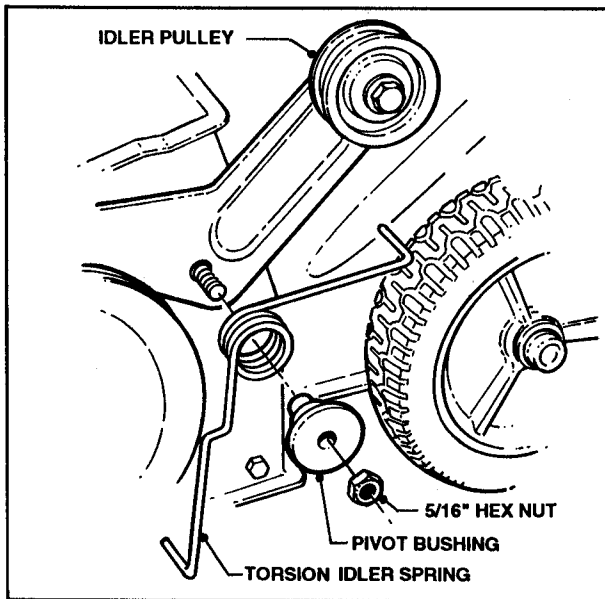

FIGURE 8.6
- (3) Remove 5/16" hex nut retaining Idler Assembly. See Figure 8.6.